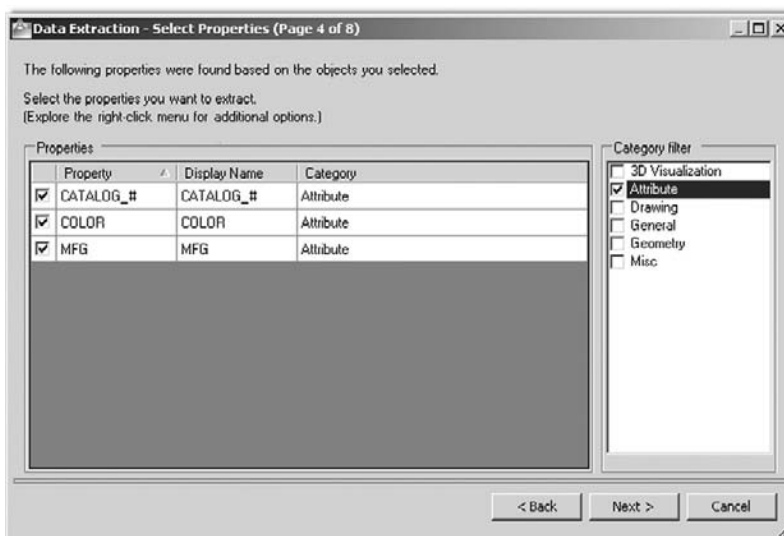

FIGURE 18.14
- Step (Page) 4.** Select Properties (Figure 18.14). Here, you initially see many property choices. Use the category filter on the right to uncheck all the choices except Attribute. You then easily see the three properties on the left that we created earlier. Check off all three and press Next >.